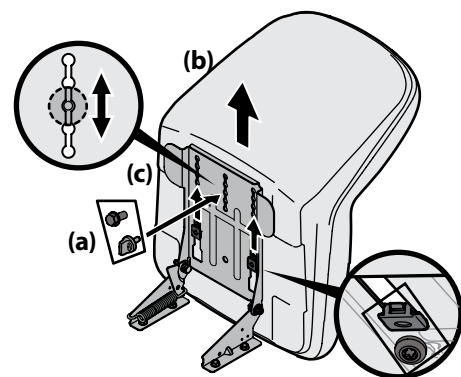

Figure 2-6
- Slide the seat (b) rearward in the seat pivot bracket (c), lining up the center rear slot in the seat pivot bracket (c) with the remaining hole in the seat (b) base. See Figure 2-6.
Note: Be certain the two seat tabs (square or round) engage the seat pivot bracket as shown in the bottom right inset of Figure 2-6.
- Select the desired position for the seat (b), and secure with the adjustment knob/bolt (a) removed in Step 1. See Figure 2-6.
- To adjust the position of the seat, remove the adjustment knob/bolt (a) on the bottom of the seat (b). Slide the seat (b) forward or backward as desired. Reinstall the adjustment knob (a). See Figure 2-6.